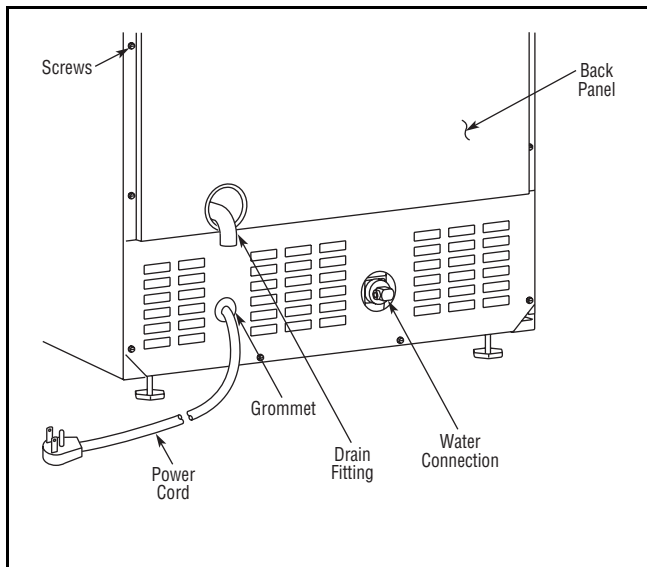

Figure 36
2. Carefully push the power cord grommet through the hole in the back panel (see **Figure 36**).